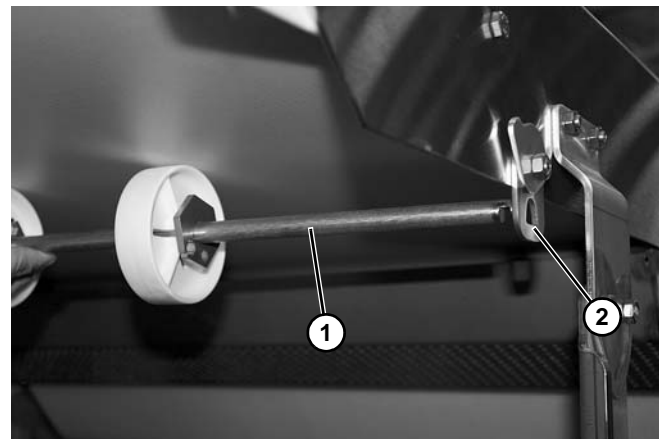

Figure 60
2. Remove belt return assembly (**Figure 60, item 1**) from return brackets (**Figure 60, item 2**).